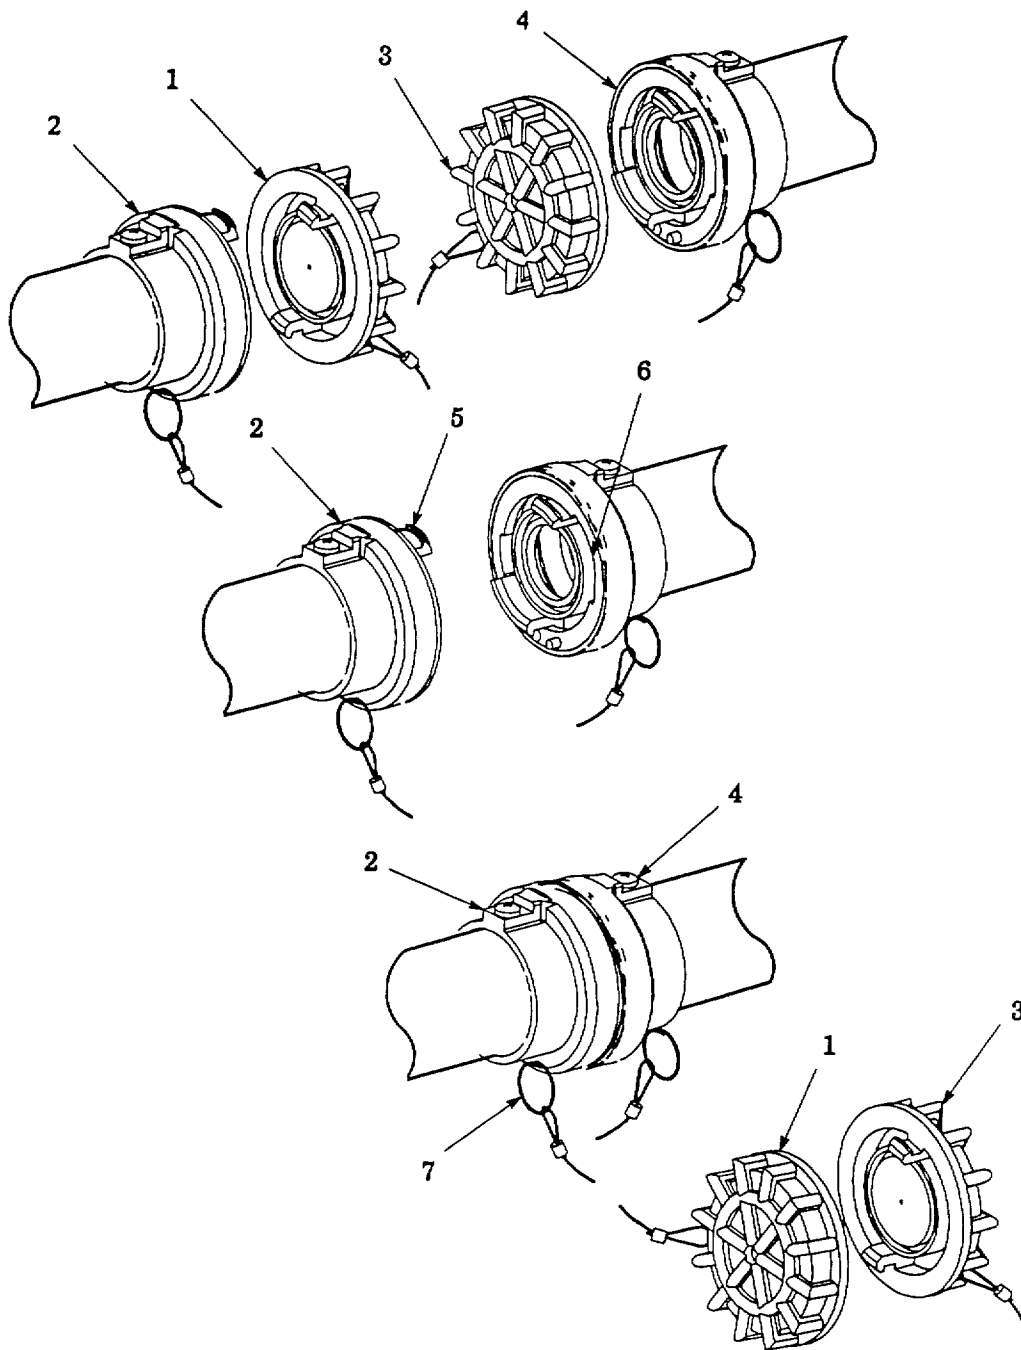

Figure 2-18. Non-valved Dry Break Coupling Disconnection.
- (2) Disconnect ground cable from aircraft.
- (3) Lift slide (3) forcefully against upper stop collar (4). Repeat until ground rod (2) is pulled from soil.
- (4) Repeat steps (1), (2) and (3) for three remaining ground rods.
b. Non-Valved Dry Break Coupling Disconnection. Refer to figure 2-18.**CAUTION**